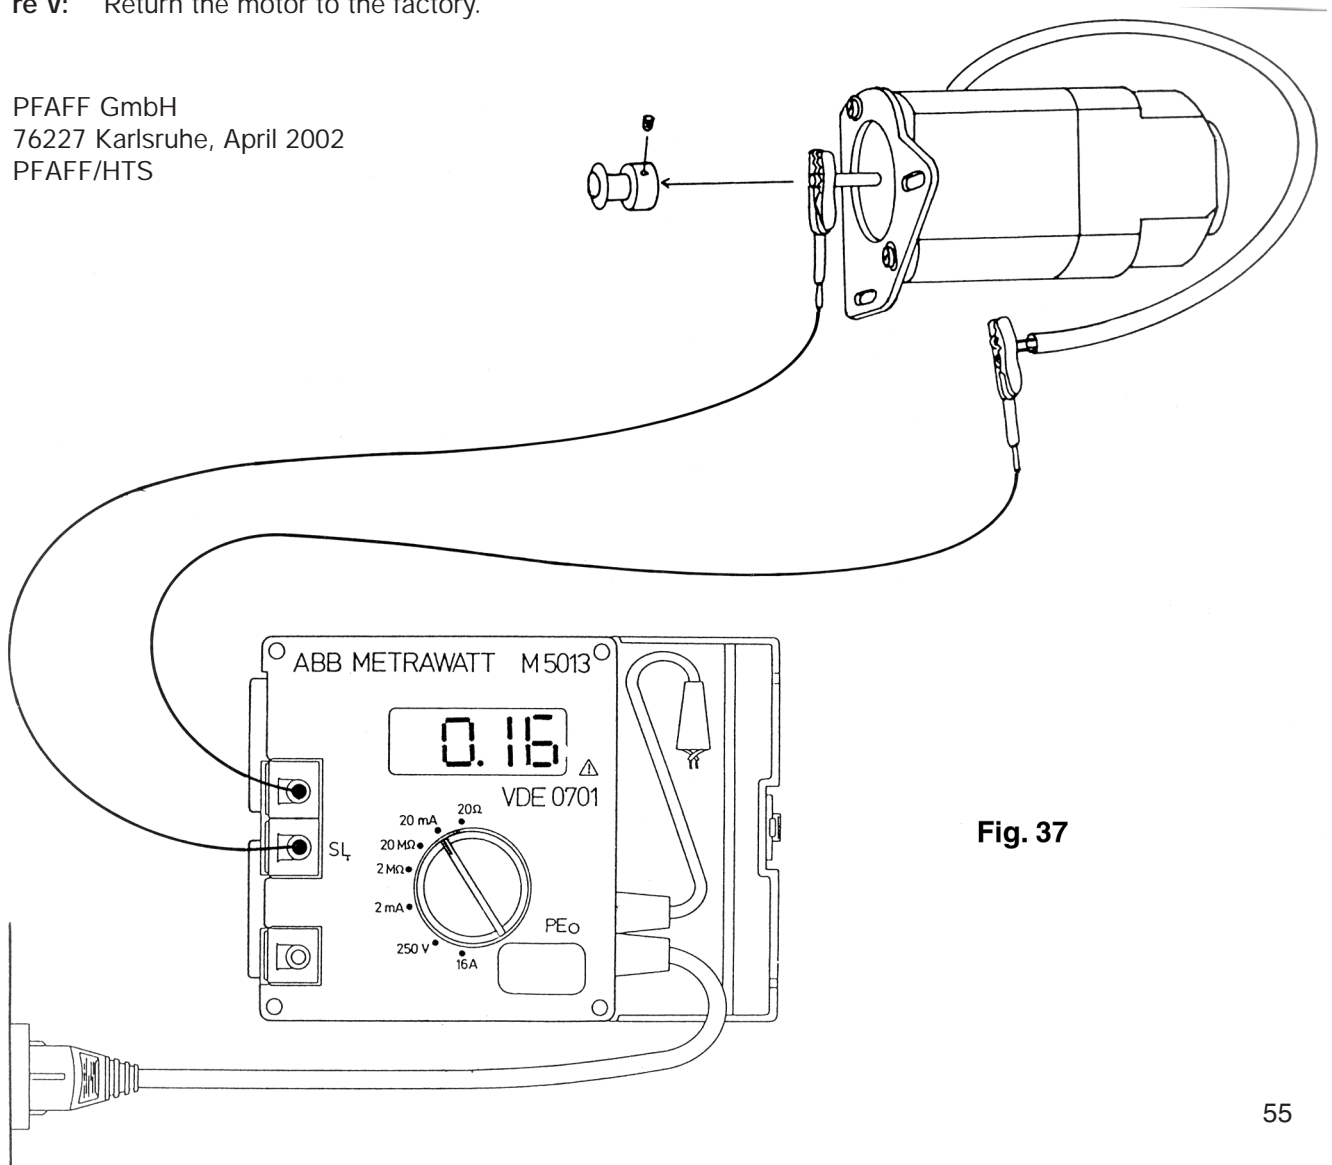

Fig. 37
- Set the testing range switch at "20 mA" (fig. 37).